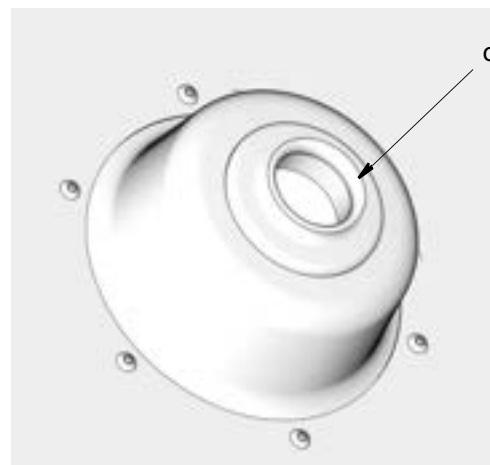

FIG. 7
- Examine follow plate to make sure rubber grommet (c) is in place in center of the plate (FIG. 7).